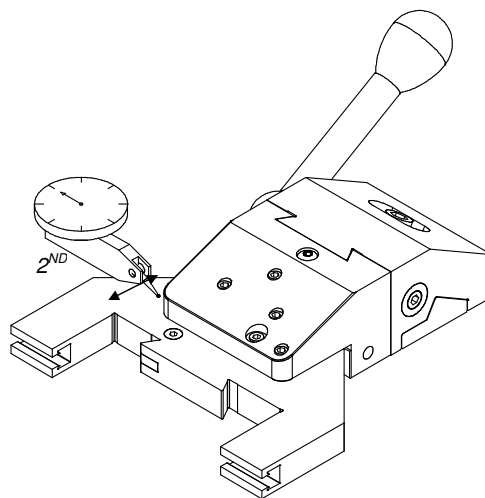

Figure 3
STEP 2. TRUING OF THE SECOND-AXIS (A). Place the indicator ball on the RH01 close to the TD01 pivot ball as shown in Fig. 3. This point is very close to the second-axis hinge line. **(B).** Zero the indicator. **(C).** Move the indicator out to the edge as shown in Fig. 3. **(D).** Turn the #2 jackscrew until the indicator moves back to it's zero set point. The second-axis is trued.